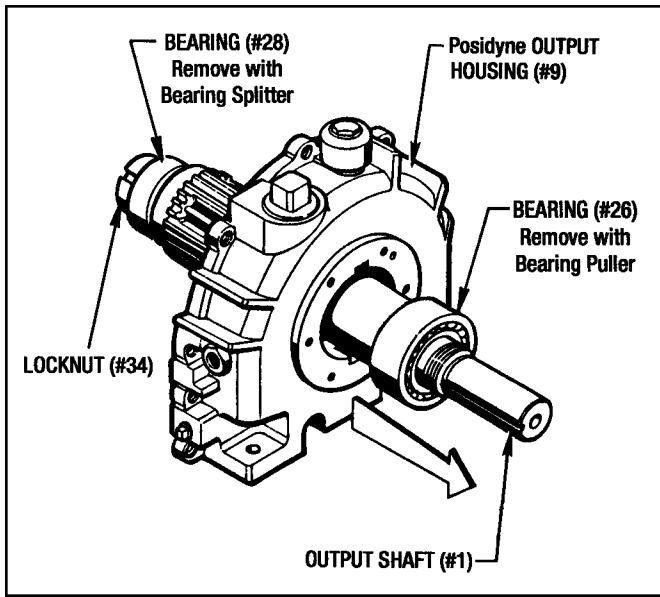

Figure 7.7 - Removing the Output Shaft
1. With a mallet tap the Output Shaft (#1) out of the Output Housing as shown in Figure 7.7.